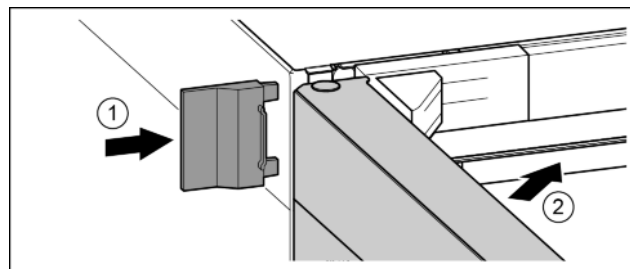

Fig. 23
- Slide on the external cover. Fig. 23 (1)
- Close the upper door. Fig. 23 (2)